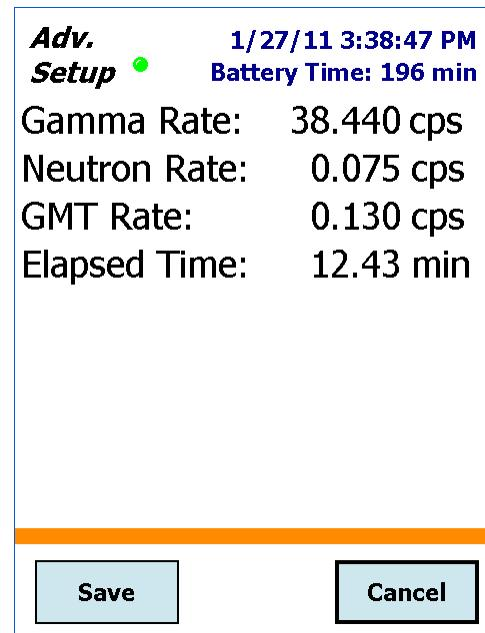

Figure 22. Collect Background for At Least the Specified Minimum Time.
- Tapping the **Run a Background** button opens the screen shown in Fig. 22 and automatically starts the background acquisition.